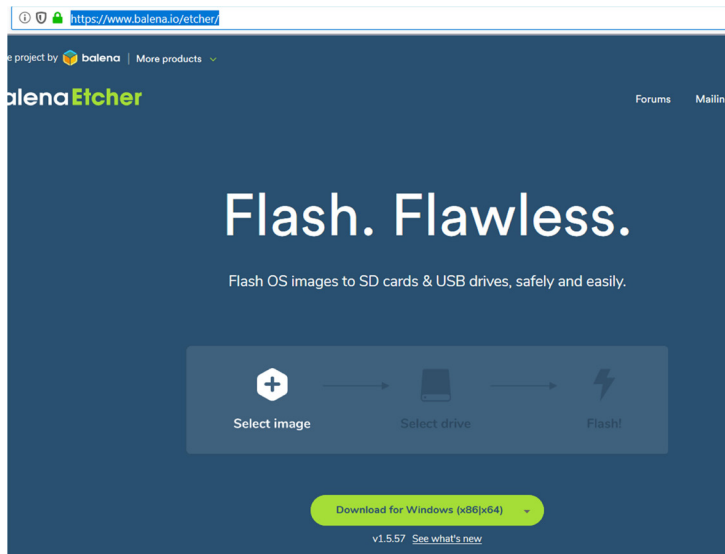

Figure 1.2 Download Etcher
- Download the Etcher program to your PC to flash the disk image. The link is (see Figure 1.2):